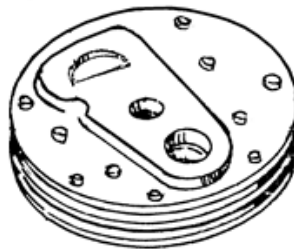

Figure 30
- Remove the cooler from the header by removing the bolt and special washer (Figure 30).